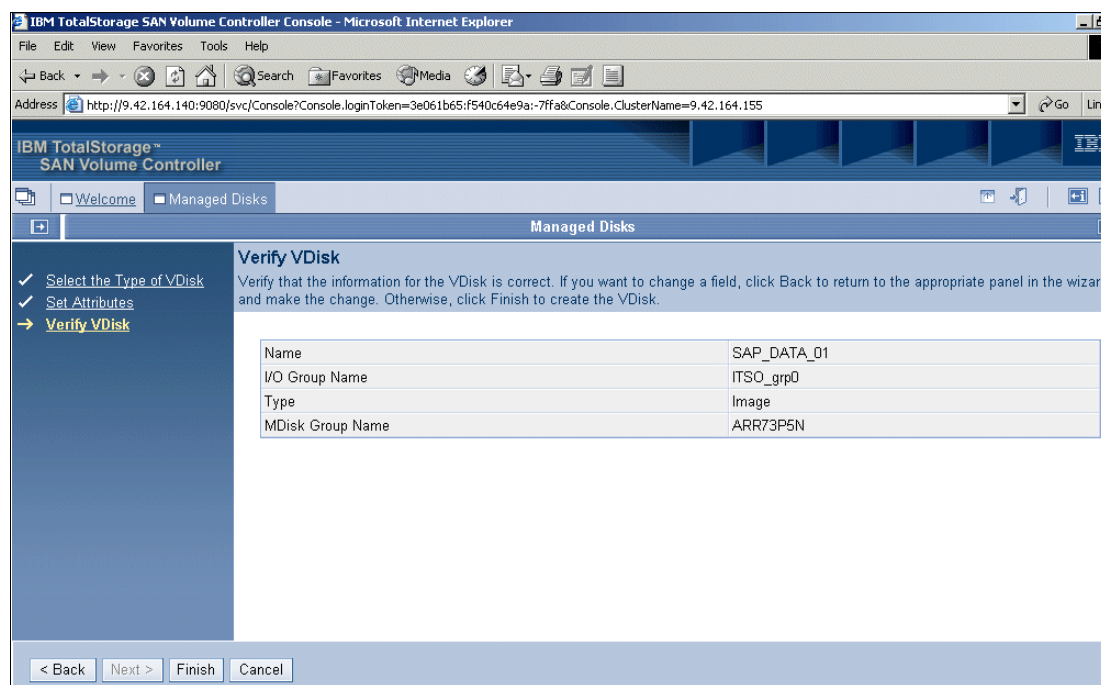

Figure 9-37 Finishing the creation of an image mode vDisk
4. You now see the final confirmation panel (Figure 9-37). Review and revise any of the specified details. When you are done, click **Finish**.